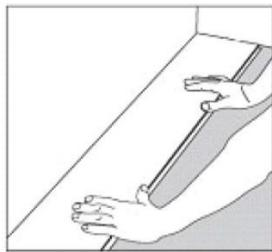

Figure 1
1. Starting from the **RIGHT** with the tongue facing the wall, carefully place the first board in place. (Figure 1)